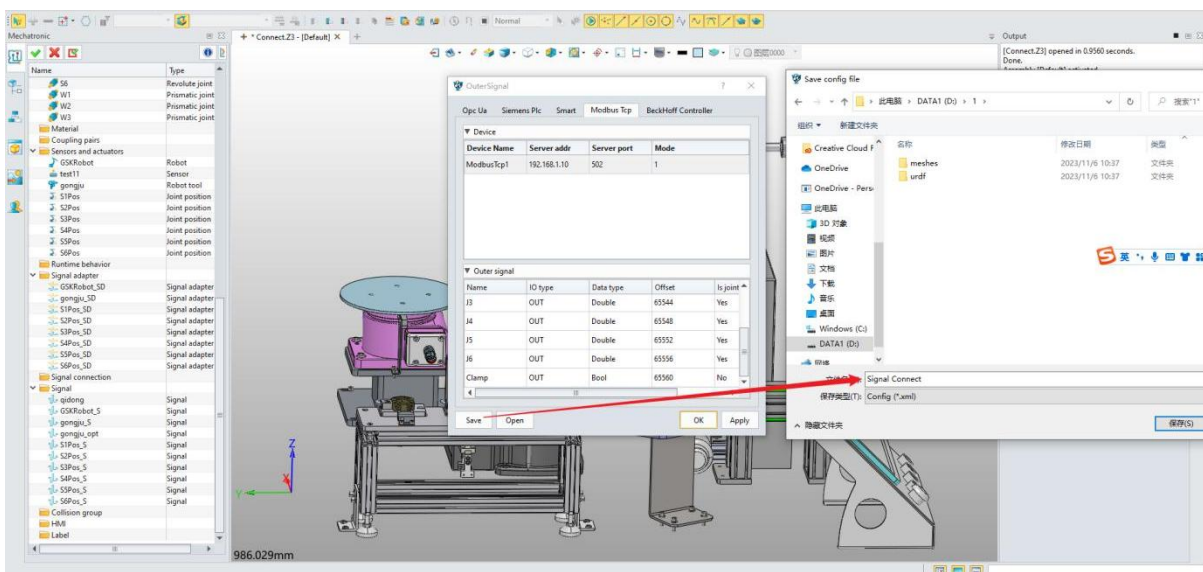

Figure 12-17: Save signal
- Click the "Save" button to save the external signal connection information to the computer for future use. (Figure 12-17)